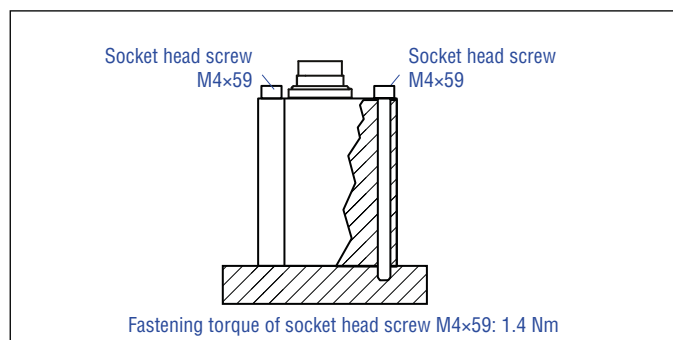

Fig. 15: Mounting with socket head screws M4×59
3. Note the minimum distance to a spatial limitation of 300 mm (11.81 in.), when mounting/dismounting the sensor. The recommended distance is 500 mm (20 in.) (Fig. 15).